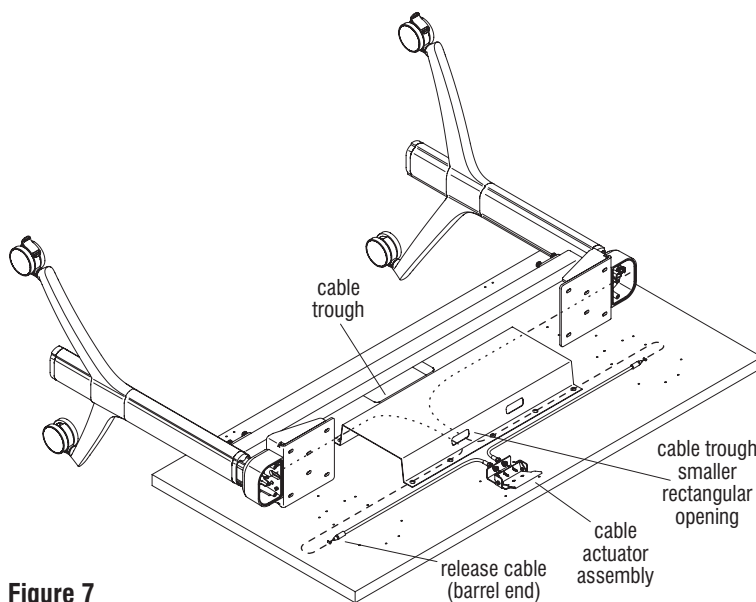

Figure 7
18. Guide the barrel end of each cable into the smaller rectangular opening on the cable trough, closest to the cable actuator assembly. Then route the barrel end of the release cable in the leftmost hole on the actuator bracket out the left end of the cable trough, and the rightmost cable's barrel end out the right end of the cable trough (Figure 7 & Details I & J).